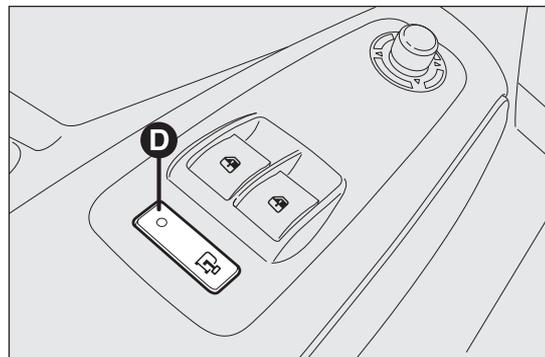

fig. 116
- after each door lock command generated by the button D fig. 116 or by button  in the dashboard;